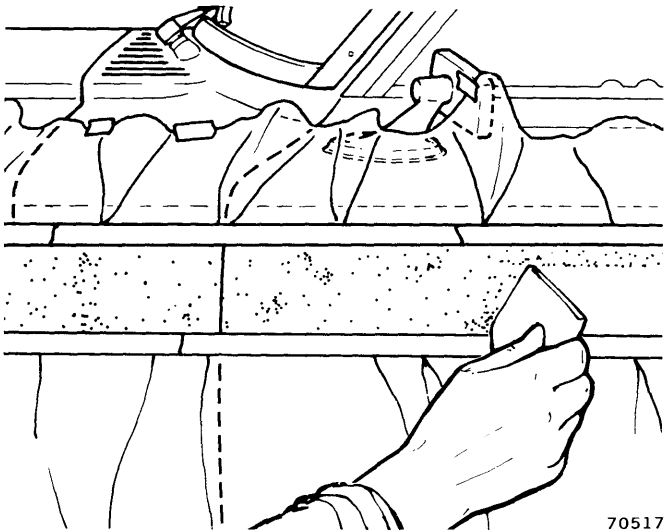

Fig. 20-23 Using Squeegee to Remove Adhesive Residue
(8) Scrape all Woodgrain and Stripe Remover from surface before proceeding.
(9) After overlay is removed, spray panel again with 3M Adhesive Remover or equivalent to remove any remaining adhesive. Use a slow spray application and apply remover in a uniform criss-cross pattern to obtain a heavy coat.
(10) After five minutes, use squeegee to remove adhesive residue (fig. 20-23).